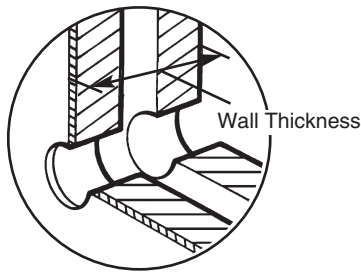
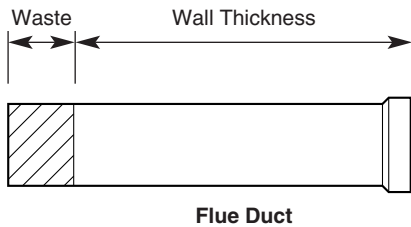

Fig. 24
Fig. 25
1. Measure the wall thickness (Fig. 24). Mark this dimension on the **Flue Duct** from the flared end and cut the waste off the plain end (Fig. 25).